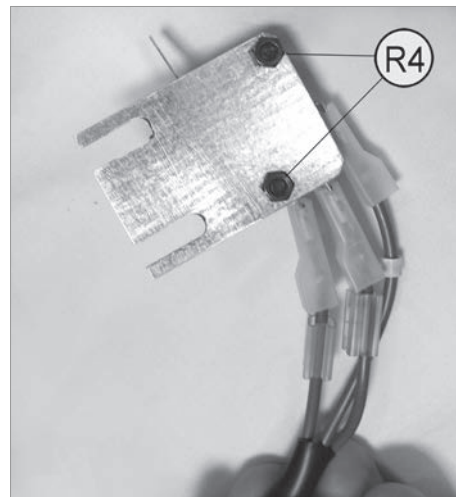

Fig.71
- 4) Loosen the 2 screws (R3) and 2 nuts (R4) so that the microswitch can be removed (Fig.71).